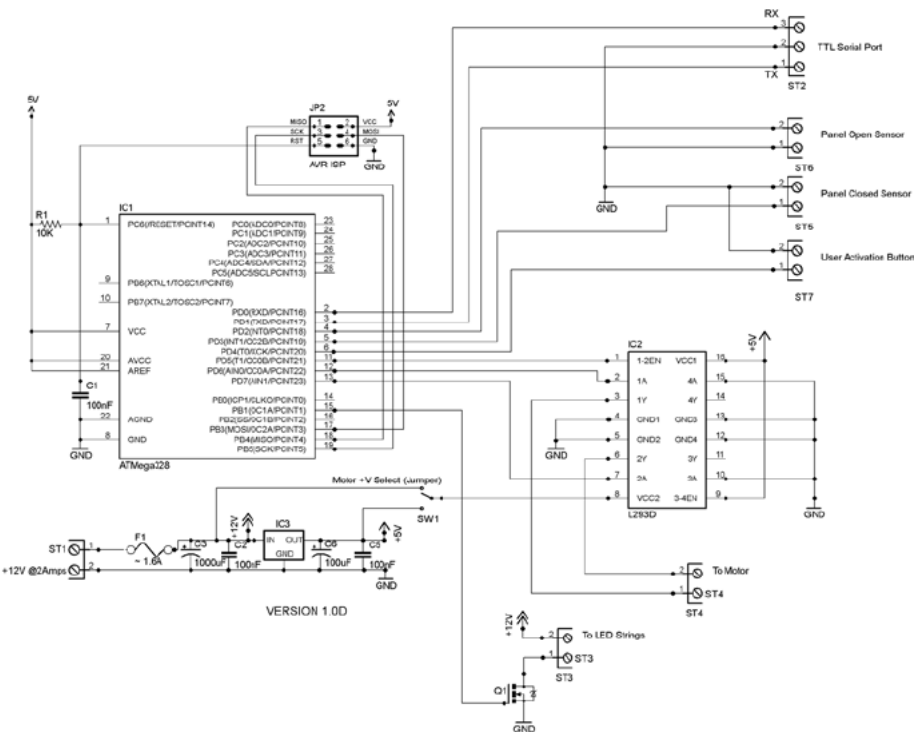

Figure 1-11. Secret panel circuit diagram
Figure 1-11 shows the circuit diagram for the electronics side of the secret panel project.
■ **Caution** It's *very* important to make sure that you use a fuse—as indicated in the Figure 1-11—nasty things can happen if something goes wrong and there is no fuse to blow! This is especially important in any device with moving parts where fingers may get caught.
Pin 8 of the LS293D is the motor supply pin. As shown in the diagram in Figure 1-11, you can use a simple wire jumper to provide power from +5 volts or +12 volts, depending on the voltage your motor requires. The L293D spec says you can use up to +36V as the motor supply. The unused half of the L293D simply has its inputs tied to ground. We don't need to use snubber diodes or any current limiting; the chip has all that built in.
If you are having problems, there is provision in the software for fitting a "fault" LED provides additional assistance (it's not shown on the circuit diagram in Figure 1-11 because I never needed it and hopefully you won't either). If you want additional indication of what the MCU is doing, attach an LED with its + lead to AVR pin 14 (Arduino digital pin 8) and its negative lead through a 330R resistor to ground. When this LED lights up it means that a panel transit has taken too long. During building you'd see messages about this on the serial channel. However, once installed and working it could be handy to have an LED indicator showing there is a problem.